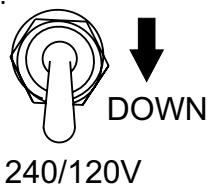

Figure 29. Full Power Switch 240/120V Position (Down)
15. Place the full power switch (Figure 29) in the 240/120V position (down).